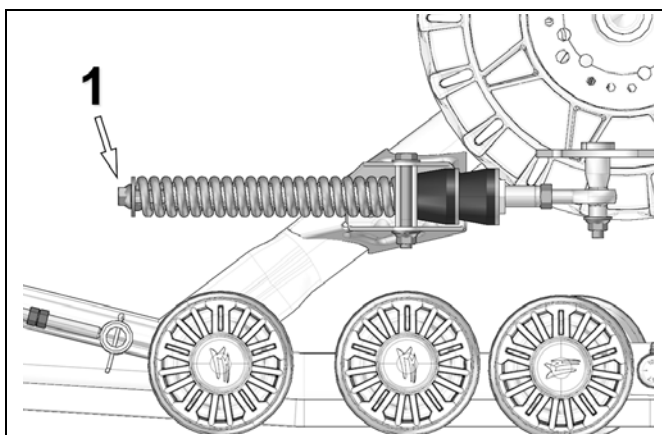

Figure 15
- Verify that the spring assembly bolt (1) is tightened to the recommended torque [40 N•m] and that stabilizing arm components are in the correct order. See Figure 15.